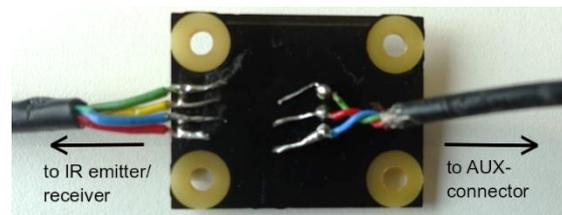

Figure 18: Ground plate of IR sensor after soldering cables to IR emitter/receiver and to the AUX-connector
6. If the ground plate now looks similar to Figure 18, place the plate between the sensorbox, lid (2.12) and the sensorbox, base (2.13) and fix them together using two M2x10mm (3.06) screws.